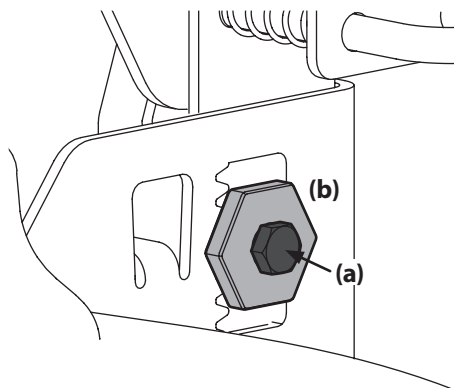

Figure 4-8
3. Loosen, but do NOT remove, the hex bolt (a) on the rear left deck hanger link. See Figure 4-8.
4. Using a wrench, raise or lower the left side of the deck by turning the adjustment gear (b). See Figure 4-8.